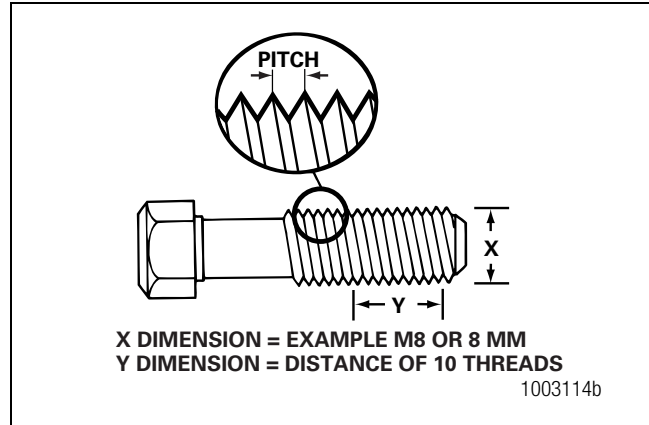

Figure 8.2
1. Measure the diameter of the threads in millimeters (mm), dimension X. Figure 8.2.
2. Measure the distance of 10 threads, point to point in millimeters (mm), dimension Y. Make a note of dimension Y. Figure 8.2.